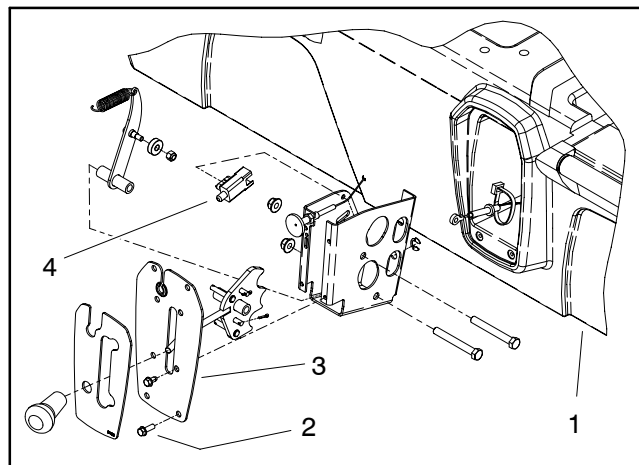

Figure 21
The optional reverse switch is a four (4) terminal, two (2) circuit switch that is used to energize the audio alarm when the shift lever is in the reverse position. The normally open switch circuit is used while the normally closed switch circuit is not used. If equipped, this switch is attached to the shift bracket in the seat base (Fig. 21).